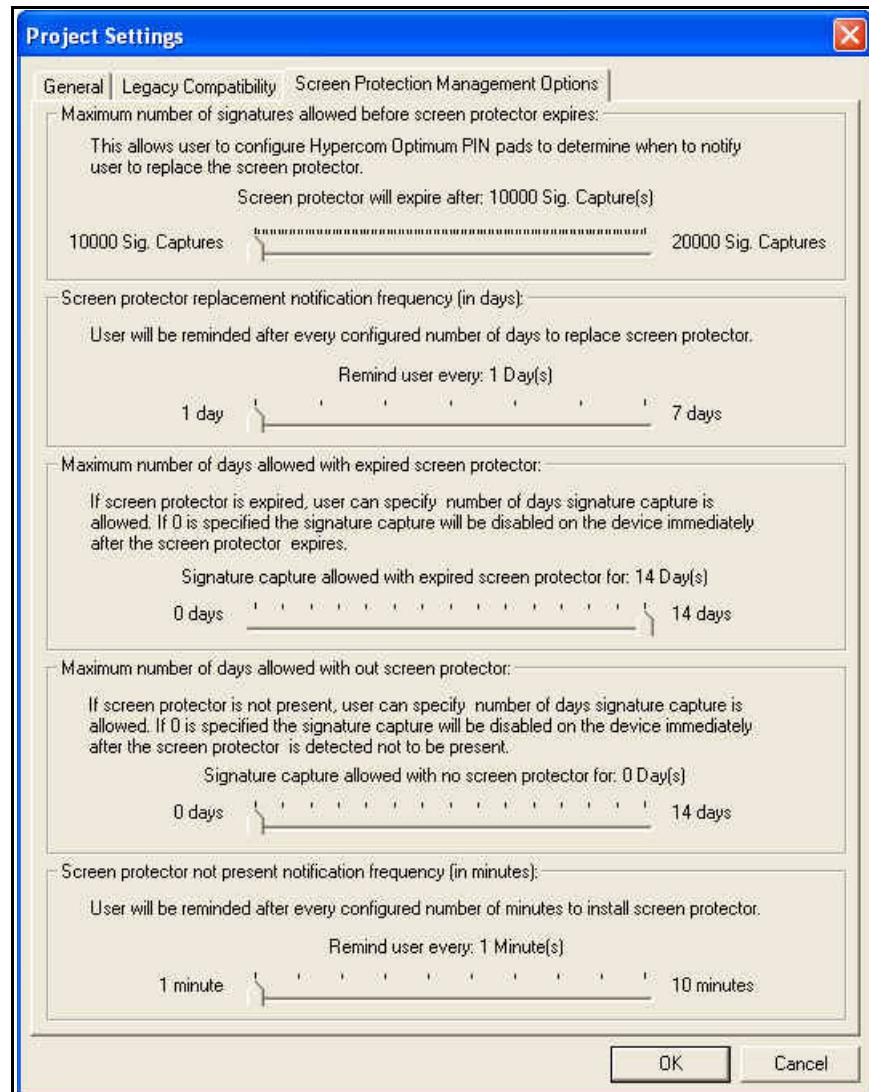

Figure 2-47 Screen Protection Management Tab
2. Select the Screen Protection Management tab, shown below in *Figure 2-47*, to set screen protector replacement triggers. If required, slide the selection bar to customize the settings.